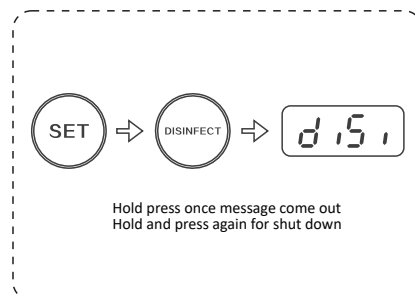

Figure 7.8.1
a) On: before starting the sterilization function, make sure that there is no pet in the ICU and the ICU door is closed. Meanwhile, press "SET" key plus "sterilization" key to enter the disinfection mode. See fig. 7.8.1.